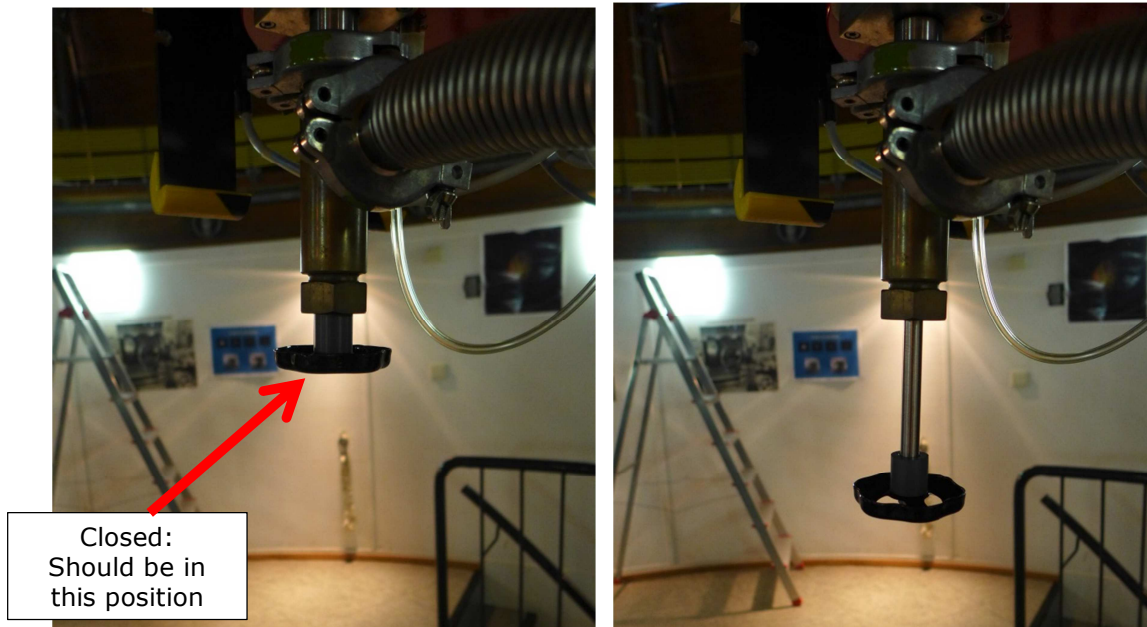

Figure 5-4: **Lock valve** at the CCD's dewar: left, valve closed; right, valve open.
- a) Verify that the **lock valve** is closed (Figure 5-4, left).
- i) Now the **lock valve** on the CCD's dewar (Figure 5-4, right) can be opened by pulling out the handle.